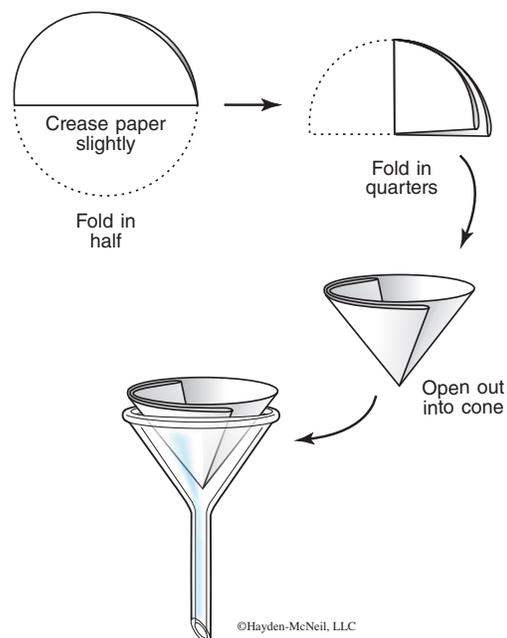
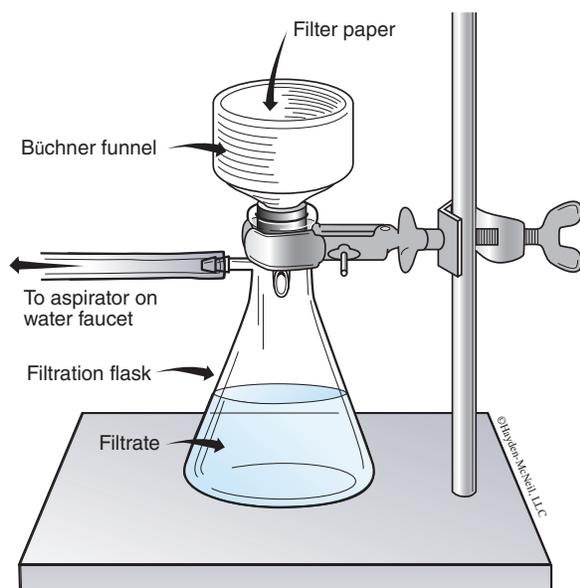

Figure 4.2. Gravity filtration.
Figure 4.3. Separation technique: Suction filtration.
simplest technique uses gravity to filter the solution through filter paper (Figure 4.2). This system works well when the solids are large and you are interested in the solution. When you have small crystals that you want to keep, **vacuum filtration** would be more appropriate, as it uses a vacuum to pull suction on a special piece of glassware known as a filter flask with a Büchner (pronounced Byook-ner) funnel to hold the filter paper (Figure 4.3). The difference between the two methods is like the difference between picking up a large bag of peas spilt on the floor by hand or by using a vacuum cleaner. We are using the power of suction to pick up the peas, just like we'll be using the suction to pull the liquid through the filter paper. In the lab, suction can be generated by a vacuum pump (think of a really powerful vacuum cleaner) or a water aspirator. The aspirator is easy to use and readily available since all it requires is an adaptor and a water faucet. The aspirator is connected to a filter flask with a rubber vacuum hose and a Büchner funnel attached.
7. If your sample has any undissolved solids, carefully filter the solution using gravity filtration. See Figure 4.2. If your sample completely dissolved, continue to the next step.
- a. Following Figure 4.2, set up your filter paper and place it in the funnel. Place the funnel in the 150 mL Erlenmeyer flask.
13. Set up a Büchner filtration system as shown in Figure 4.3.